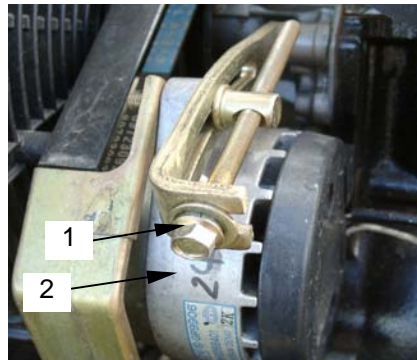

Figure 17. Belt Tension Bolt
- d. Loosen belt tension bolt (**figure 17, item 1**) on generator (**figure 17, item 2**).
- h. Pivot generator away from water pump, tightening fan belt tension (**figure 17, item 1**).